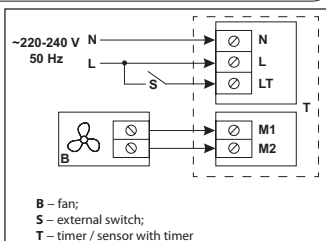

Fig. 4. Wiring diagram
9. Connect the wires to the terminal blocks in compliance with the wiring diagram, fig. 4.
10. Connect the wires to the terminal blocks in compliance with the wiring diagram, fig. 4.
For connection of the timer / timer with sensor, follow the wiring diagram, fig. 4.